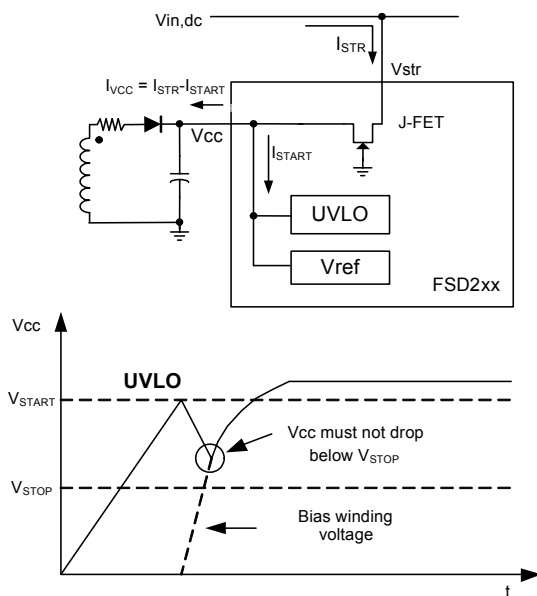

Figure 7. Charging Vcc Capacitor through Vstr
1. Startup : At startup, the internal high voltage current source supplies the internal bias and charges the external Vcc capacitor as shown in Figure 7. In the case of the FSD210 B, when Vcc reaches 8.7V the device starts switching and the internal high voltage current source is disabled. The device is in normal operation provided that Vcc does not drop below 6.7 V. After startup the bias is supplied from the auxiliary transformer winding. In the case of FSD200B, An internal high voltage regulator (HV Req.) located between Vstr pin and Vcc pin regulates the Vcc to be 7V and supplies operating current, thus FSD200B needs no auxiliary bias winding.